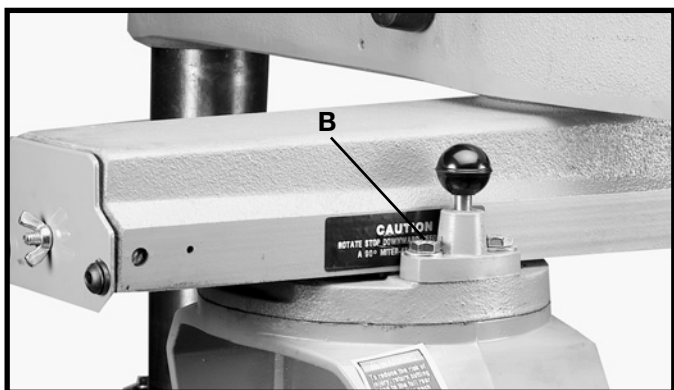

Fig. 28
2. Remove left screw (B) Fig. 28 from yoke assembly.